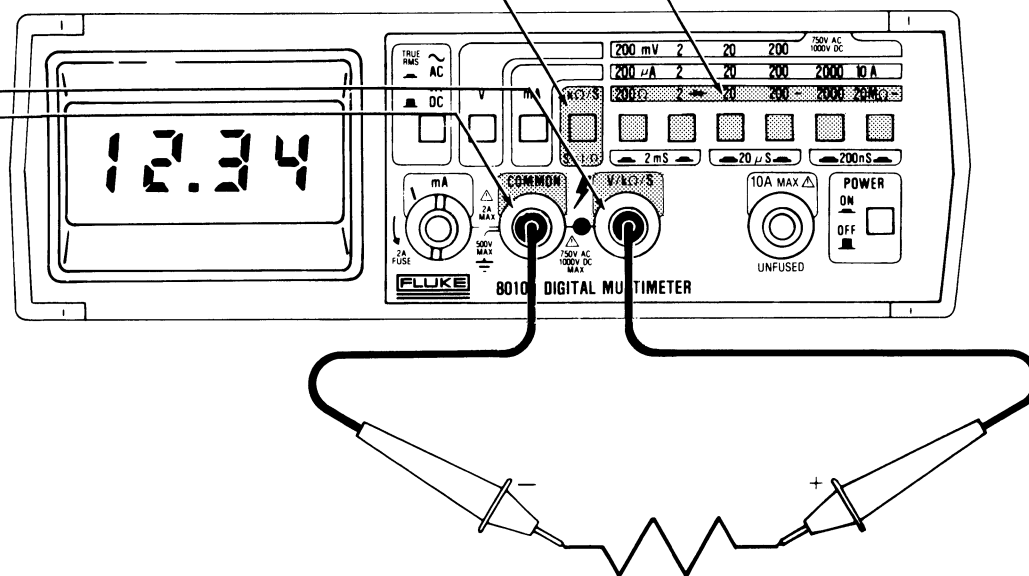

Figure 2-6. Resistance Operation
2-29. Figure 2-6 describes how to operate your Multimeter for resistance measurements. (The Low Ohms resistance feature of the 8012A is described in the following paragraph.) Erroneous measurements can occur if power is present in the resistance being measured. Ensure that power is removed and the circuits are discharged before measuring in-circuit resistances. The AC/DC function switch has no effect during resistance measurements.
1. Setup the Multimeter as shown in Figure 2-6.